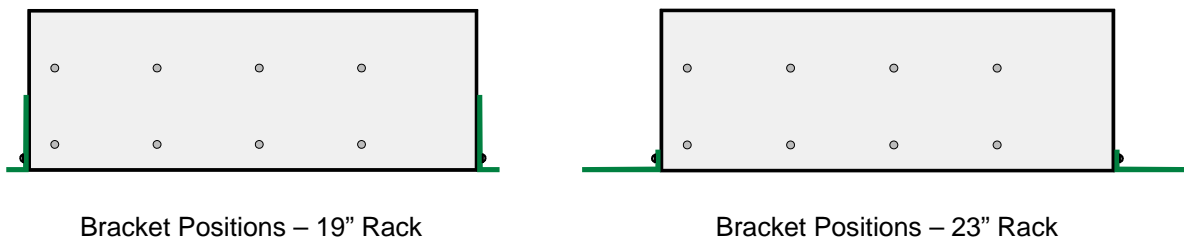

Figure 1 – Rack Mount Bracket Positions
1. Attach the mounting brackets to the Battery Backup and/or Add-on Battery in the 19" or 23" mounting position as needed, using the supplied mounting bracket screws (see Figure 1).